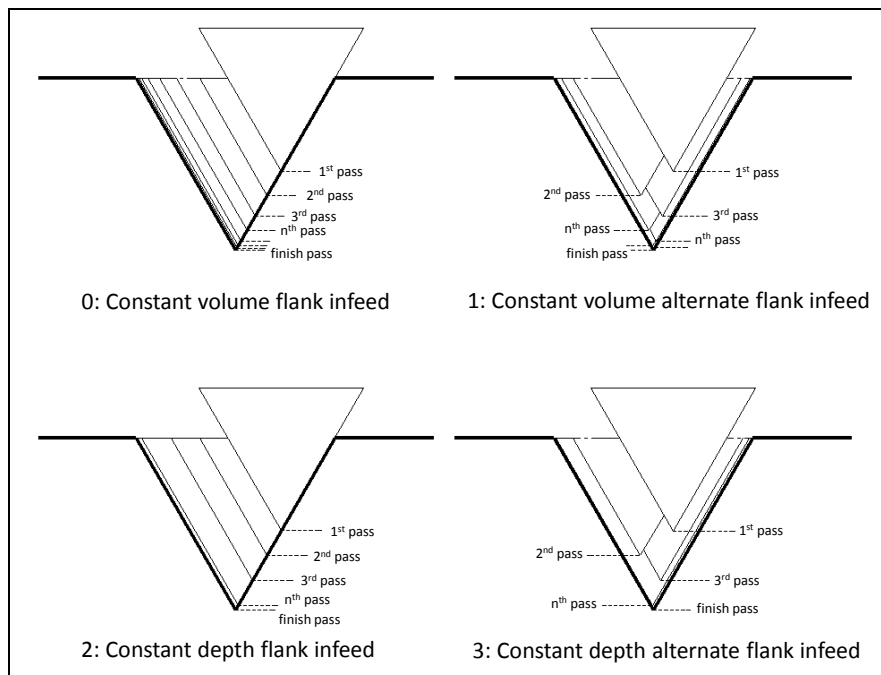

Figure 76-1: Threading infeed types
- K: Infeed type. There are 4 possible infeed selections, 0 to 3. The 4 options are combinations of two infeed types and two depth of cut types. The two infeed types are flank and alternate flank, see figure 76-1. In the flank infeed mode each depth of cut moves down at the angle for the thread, following the trailing flank of the tool. Alternate flank changes from leading to trailing flank for each pass. The two depth of cut types are constant volume and constant depth. In constant volume the depth of cut will get smaller (down to the minimum specified by Q) for each pass to maintain a constant volume of material being removed. This is usually better for tool life and thread quality. Constant depth is just that. Each depth of cut is the same down to the finish allowance.